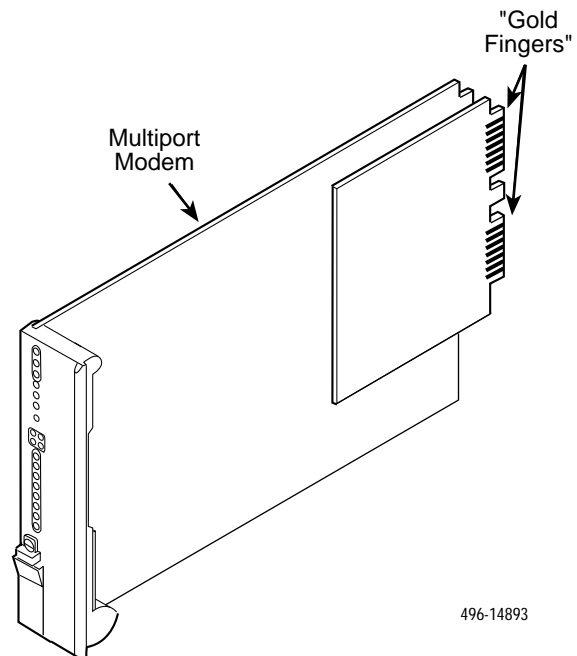

Figure 6-3. Dial/Lease 2-Slot Modem Cards
- Dial/lease modems, which occupy two slots in the carrier and require a multiport connector module (Figure 6-3).